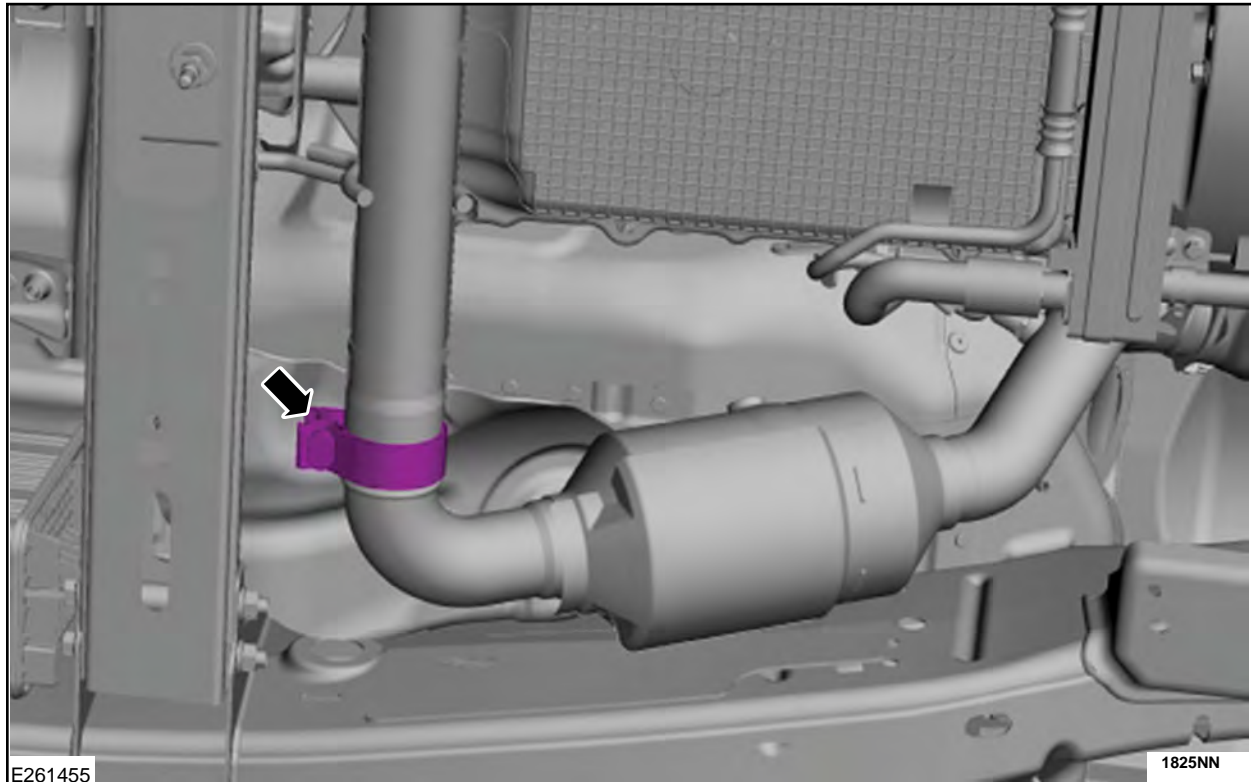

FIGURE 41
67. Tighten the clamp. See Figure 41.